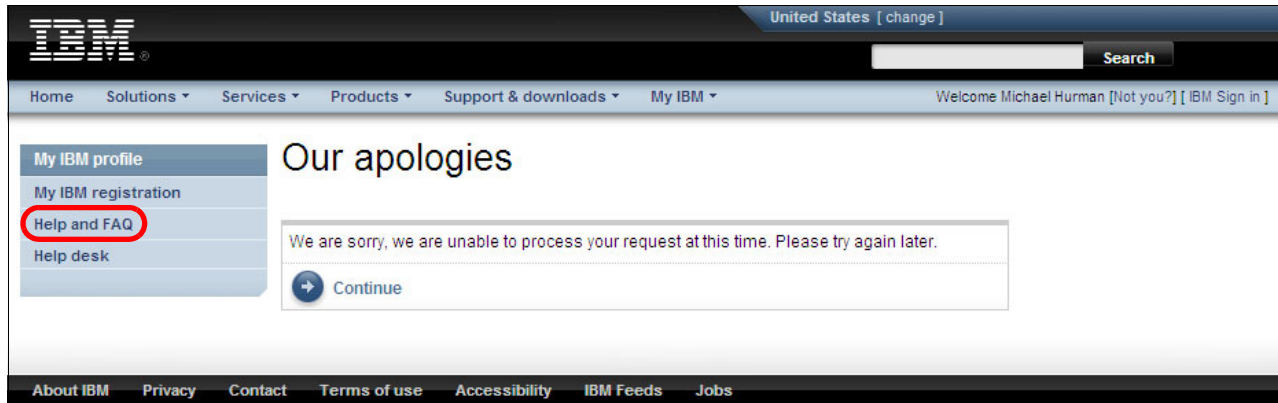

Figure 2-36 Obtaining help for an unsuccessful registration
4. Click **Continue** after the registration process is complete. If the registration was not successful, click **Help and FAQ** (on the left side of the page), as shown in Figure 2-36. You can also refer to the following website: